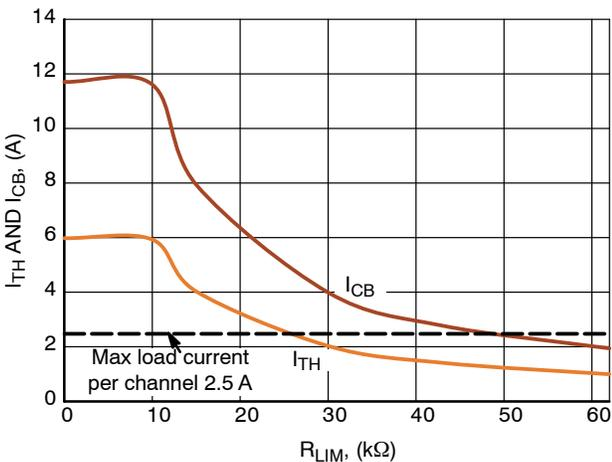

Figure 5. Current Limit Setting vs. R_{LIM}
1.1 R_{LIM}: The current limiting resistor should be connected between the I_{LIM} pin (pin 7) and ground. The purpose of this resistor is to set the current limit value for I_{TH} and I_{CB}, which when tripped will cause the output to be disconnected from the input. Look at Figure 5 and 6 in the data sheet to choose the correct resistor value for the application.